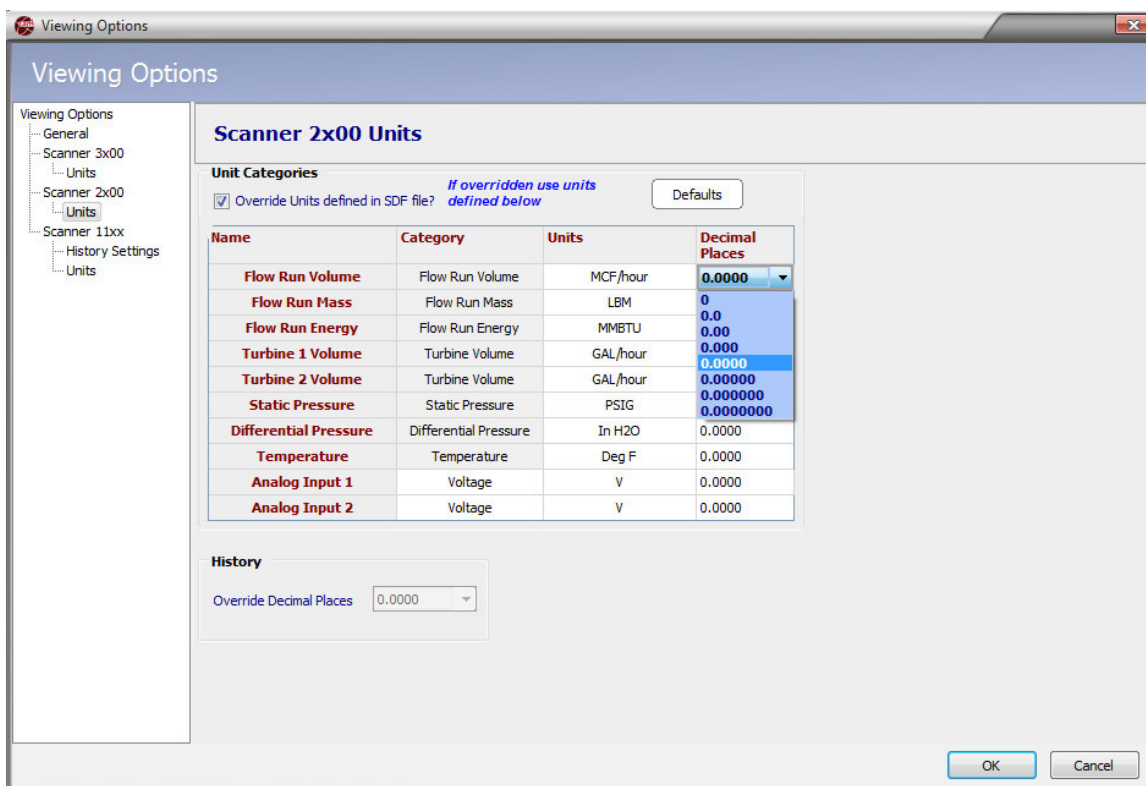

Figure A.2—Scanner 2x00 unit override screen
From the Scanner 2x00 *Viewing Options* dialog (Figure A.2), the user can change the unit, rate, decimal position, or category of a parameter and override the unit in the .sdf file.
1. Check the **Override Units** checkbox near the top of the screen to make the unit selections editable (Figure A.2).